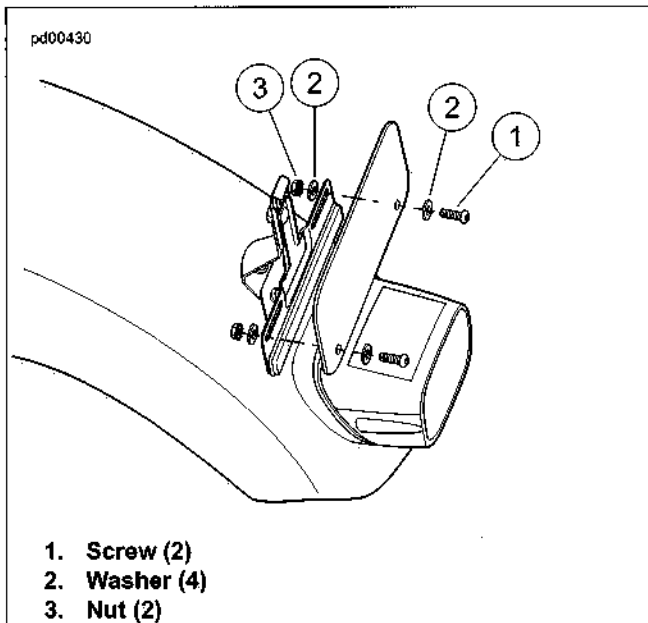

Figure 2-169. License Plate Bracket: XL 883L/R (India) (shown)
1. See Figure 2-169. Assemble screws (1), washers (2), license plate and nuts (3) to the license plate bracket.